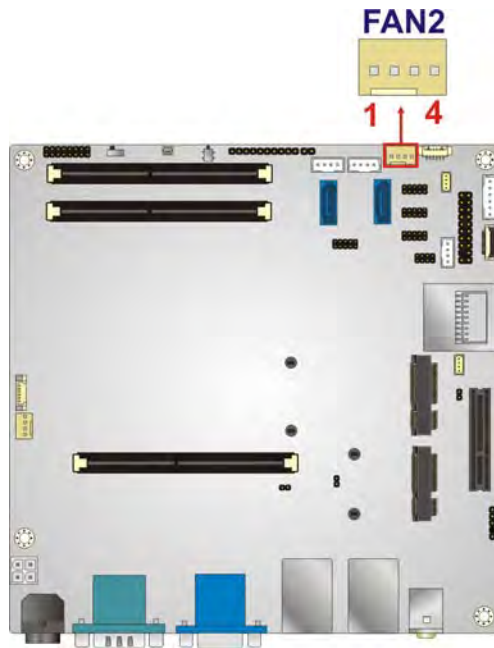

Figure 3-26: System Fan Connector Locations
- CN Location: See **Figure 3-26**